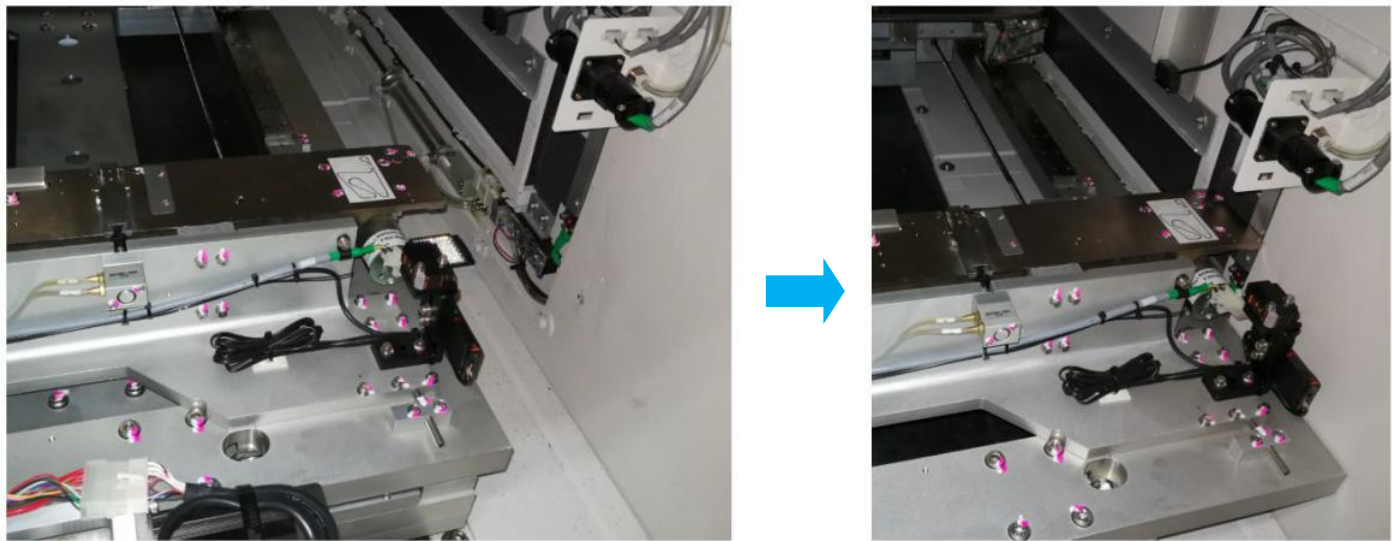

Figure 19
20. Manually move the X Axis Stage towards particular barrier. May refer to below Figure 19.